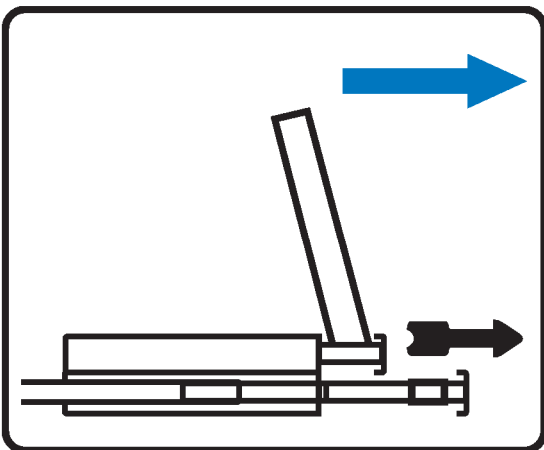

Figure 2.
- Pull and hold the black arrow button on either side of the LCD keyboard drawer to unlock. (shown in Figure 2).